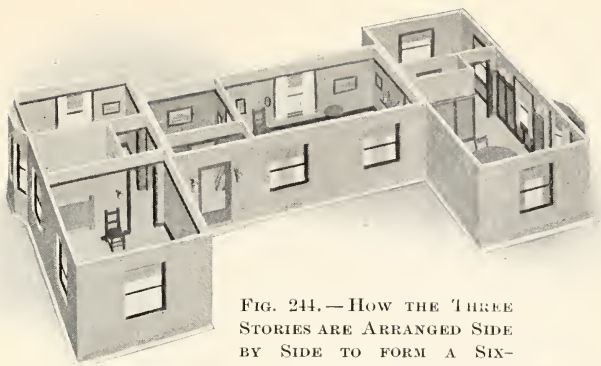
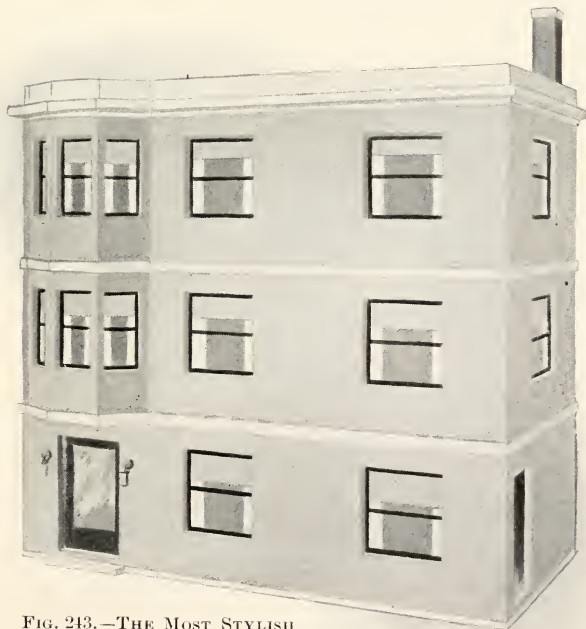

FIG. 244.—HOW THE THREE
FIG. 243.—THE MOST STYLISH
THE doll apartment building in this chapter is a new idea in doll-houses. By the illustrations you will see that the apartment building is three stories high, and consists of three units — each one story high — and a roof. During playtime the units are arranged side by side upon the floor so as to form a six-room apartment (Fig. 244); and afterward they are piled up one upon another as shown in Fig. 243, and the roof placed on top, in a compact form that takes up but little floor space.
cannot be fastened to the first story box, because they would interfere with placing the boxes close together as in Fig. 244.
**Make the Front Door** out of a piece of cigar-box wood, and set a piece of glass in an opening cut about the size shown in Fig. 243. This door may be hinged to open, but it is better to fasten it in the opening, because small pieces are easily broken off their hinges. Fasten a small block below the front door for a step (Fig. 243).
The dining-room should have a plate-rail on which to stand plates (pictures of plates cut from advertisements and pasted upon cardboard), and the walls below the plate-rail should be paneled with strips of cigar-box wood for division strips (Fig. 244).